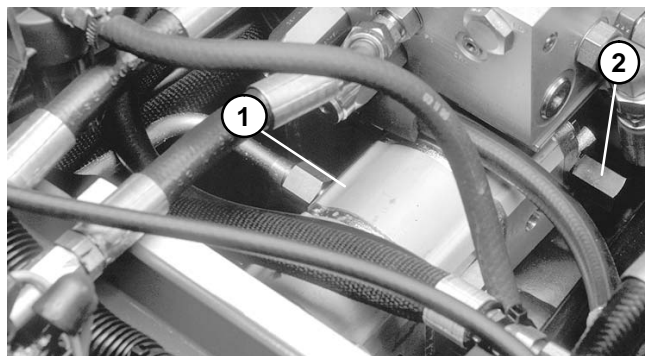

Figure 23
8. If pressure is maintained below **1450 PSI (100 bar)** or pressure goes beyond **1450 PSI (100 bar)**, replace the relief valve (Fig. 23).